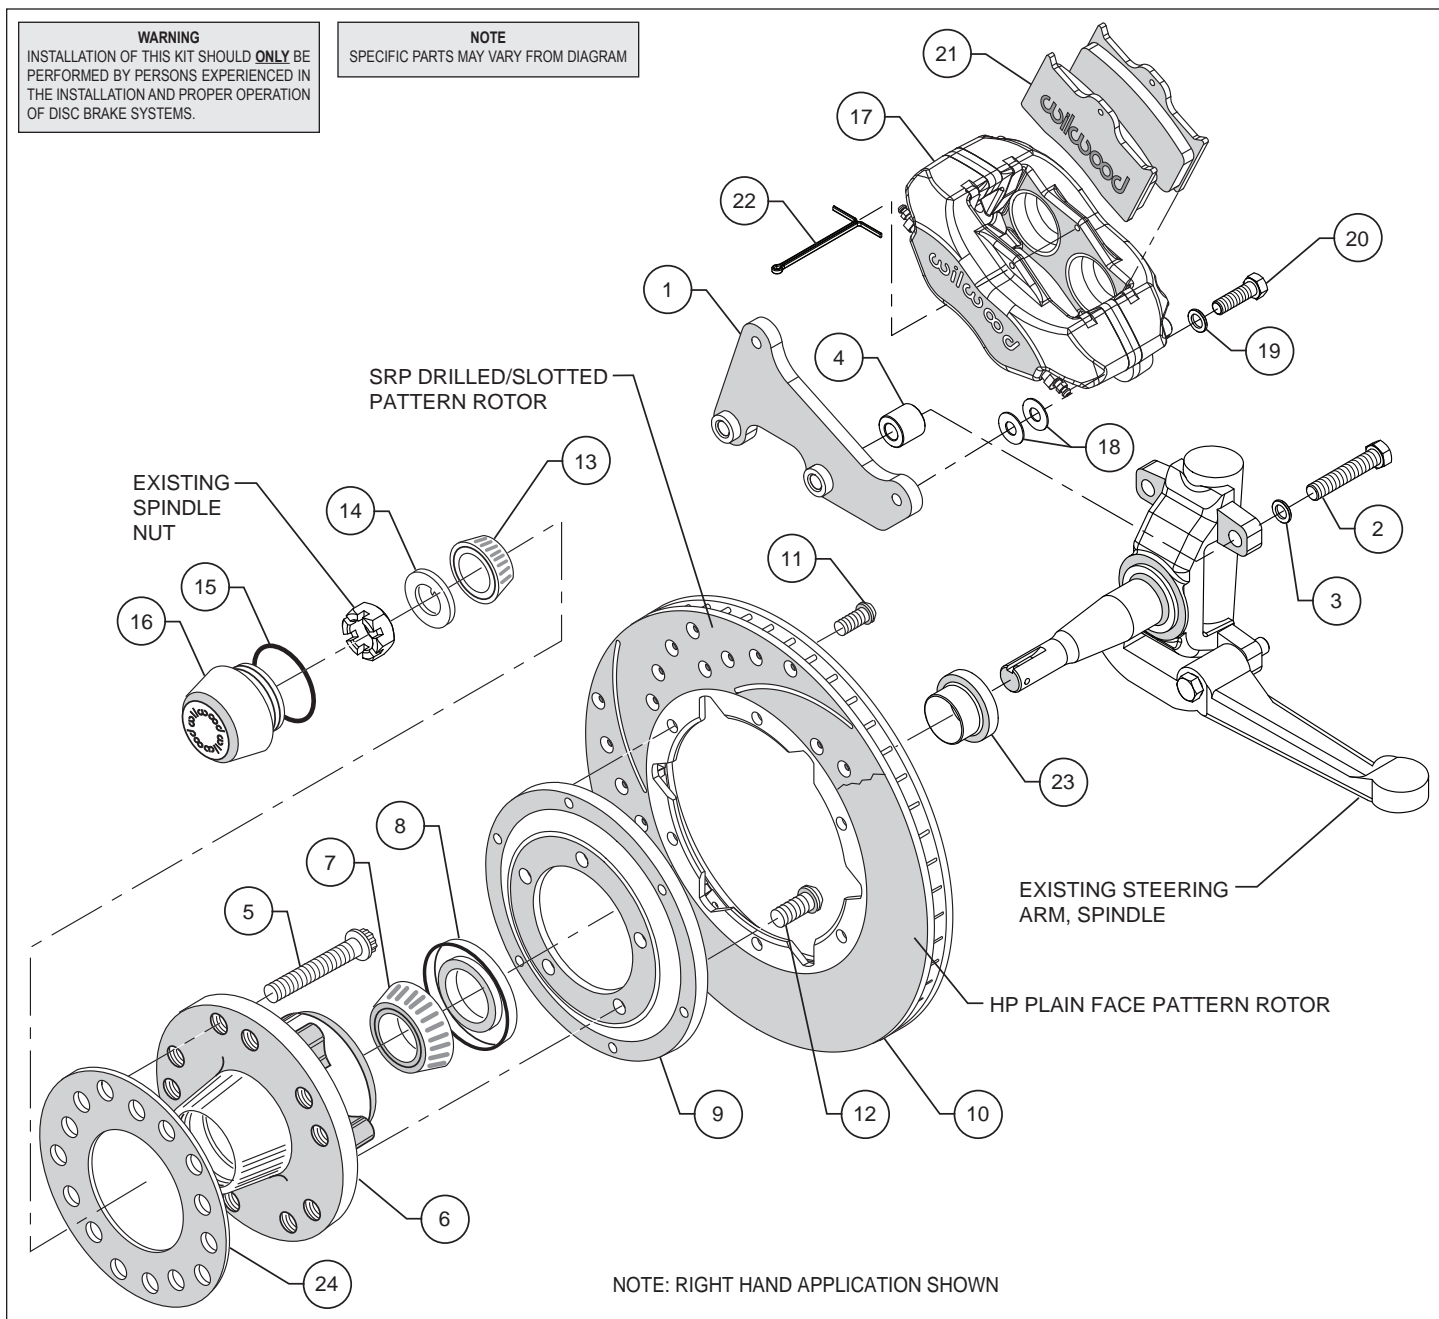
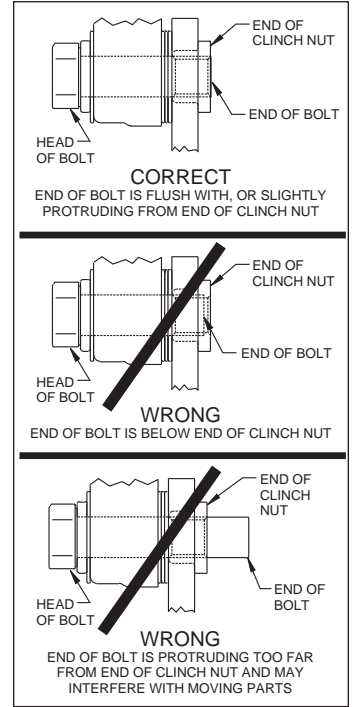

Figure 1. Typical Installation Configuration
Figure 3. Clinch Nut Engagement Diagram
Assembly Instructions (numbers in parenthesis refer to the parts list and Figure 1 on the preceding pages): **CAUTION:** All mounting bolts must fully engage clinch nuts. Be sure to check that all bolts are either flush or protruding through flanged side of clinch nut after shimming, Figure 3.
- Orient the caliper mount bracket (1) as shown in Figure 1, and install using bolts (2) and washers (3). Place a spacer (4) on each bolt between the bracket and caliper mounting bosses, Figure 1. Ensure that the flanged heads of the clinch nuts in the bracket are facing outboard. Temporarily tighten the mounting bolts. **NOTE:** The bracket must fit squarely against the mount bosses on the upright. Inspect for interference from casting irregularities, machining ridges, burrs, etc. Remove bolts one at a time, apply red *Loctite*[®] 271 to the threads and torque to 70 ft-lb.
- Slide the inner bearing spacer (23) onto the spindle with the larger O.D. facing inward, Figure 1 and Photo 1.
- Install wheel studs (5) into the hub (6), Photo 2. Torque to 77 ft-lb. **NOTE:** There are two five lug patterns in the hub (5 x 4.75 and 5 x 5.00). Ensure the correct hub stud pattern is being used to fit the wheel application.
- Pack the large inner bearing cone (7) with high temperature disc brake bearing grease (available from your local auto parts store) and install into the backside of the hub (6), Photo 3.
- Install the grease seal (8) by pressing into the backside of the hub (6), flush with the end of the hub, Photo 3.
- Orient the rotor (10) and the rotor adapter (9) as shown in Figure 1 and Photo 4. Attach the rotor to the adapter using bolts (11). Using an alternating sequence, apply red *Loctite*[®] 271 to the threads, and torque to 25 ft-lb.
- Mount the adapter/rotor assembly (9/10) to the hub (6) using bolts (12), as shown in Figure 1 and Photo 5. Using an alternating sequence, apply red *Loctite*® 271 to the threads, and torque to 55 ft-lb.
- Screw dust cap (16) into hub (6), Photo 7. Friction created by the o-ring (15) on the dust cap keeps it from unscrewing. **NOTE:** The O.D. of the existing OEM spindle washer may be larger than the I.D. of the dust cap not allowing it to seat against the hub face. Therefore, use the spindle washer (14) supplied with the kit instead of the OEM washer.
- NOTE:** Please reference the caution statement at the beginning of the assembly instructions. Mount the caliper (17) onto the caliper mounting bracket (1) using bolts (20) and washers (19), as shown in Figure 1. Initially place two .035" thick shims (18) on each bolt between the caliper and the bracket, Photo 8. Temporarily tighten the mounting bolts and view the rotor (10) through the top opening of the caliper. The rotor should be centered in the caliper, Photo 9. If not, adjust by adding or subtracting shims between the bracket and the caliper. Always use the same amount of shims on each of the two mounting bolts. **NOTE:** The end of each bolt must be flush with or slightly protruding from the head of the clinch nut, as shown in Figure 3. If necessary place spare shims between washer (18) and caliper mounting ear to achieve the proper clinch nut engagement. Later, after the calipers are bled, the caliper mounts bolts will be secured using red *Loctite*® 271.